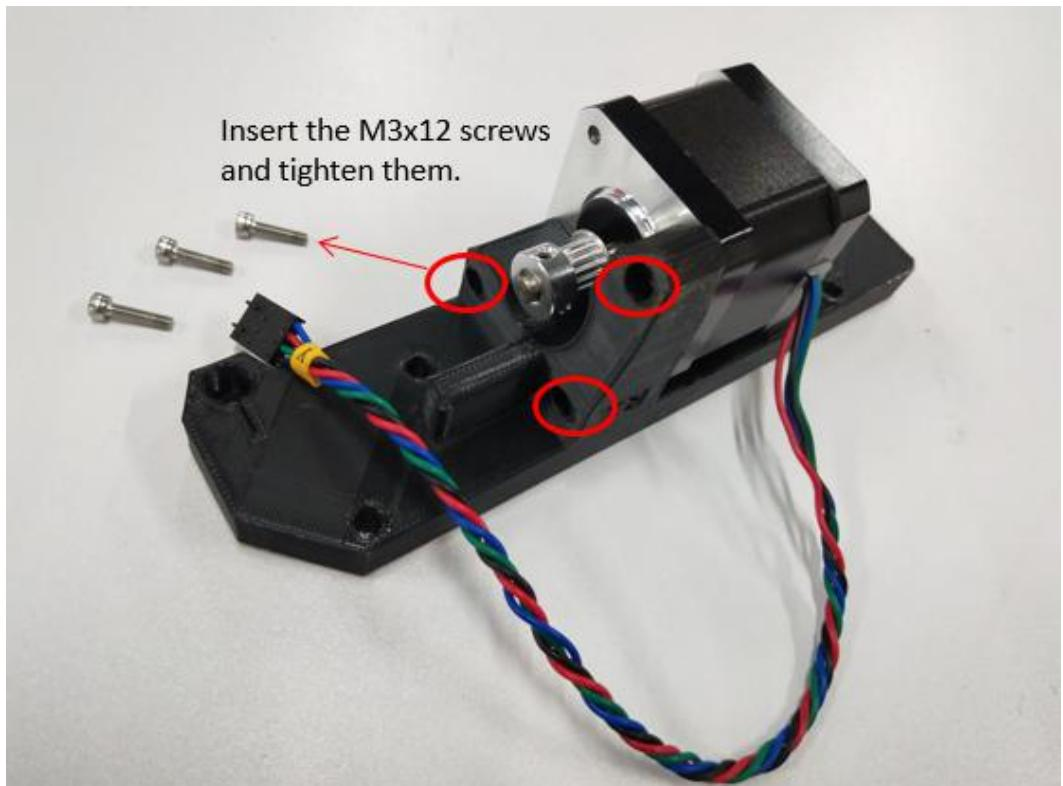

Figure 1.2.2
**Step 1-2-2:** Install the Y-axis motor into the MINI-y-plate-rear with 3pcs M3×12 hexagon socket head cap screws as shown in Figure 1.2.2.